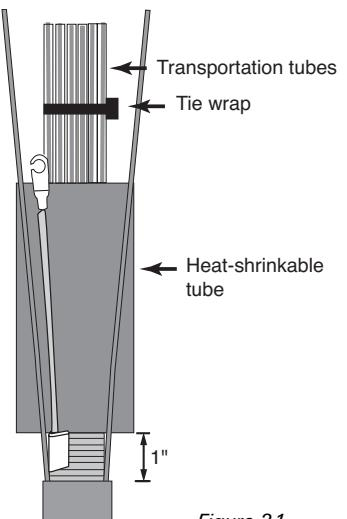

Figure 21
2. Slide the 4"-long black heat-shrinkable tube (included with cable termination components in cable seal and closure kits) over the transportation tubes and funnel, but under the strength members and bonding wire. The tube should be 1" from the ring cut. If a shield is present in the cable, the tube should be flush with the edge of the shield. (See Figure 21).